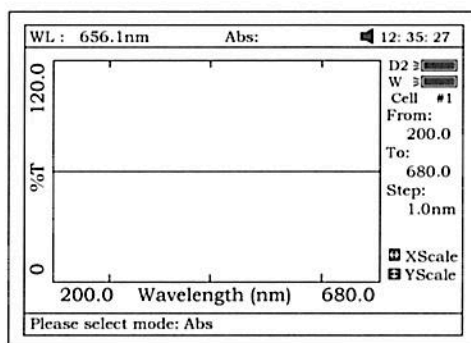

Fig 43
2. Press **【F2】** to select the test mode, "Abs", "%T" or "E" (Fig 43).